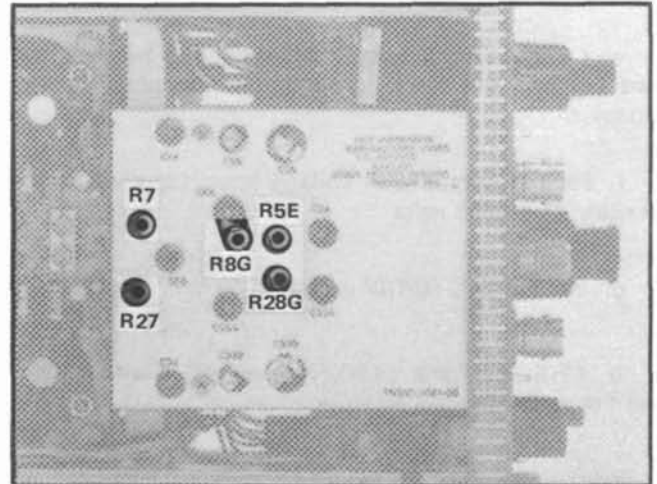

Fig. 5-7. Attenuator board adjustment locations used in the DC Input Resistance and Attenuator Ratio Adjustments procedure.
k. ADJUST—If trace shift exceeds ± 0.3 division, leave the + INPUT Mode switch in the DC position and adjust R8G (see Fig. 5-7) so that the trace is within the given tolerance. Recheck for no trace shift as the + INPUT switch is set from V_c to DC. If necessary, readjust R8G.
i. ADJUST—If a +4.500 volt reading is not obtained, adjust R7 (see Fig. 5-7) for a +4.500 volt indication on the Precision DC Voltmeter.
g. ADJUST—If the tolerance is exceeded, leave the + INPUT Mode switch in the DC position and adjust R5E (see Fig. 5-7) for minimum trace shift.
g. ADJUST—If trace shift exceeds ± 0.3 division, leave the - INPUT Mode switch at DC and adjust R28G (see Fig. 5-7) for minimum trace shift.
j. **ADJUST**—If a +4.500 volt reading is not obtained, adjust R27 (see Fig. 5-7) for a +4.500 volt indication on the Precision DC Voltmeter.